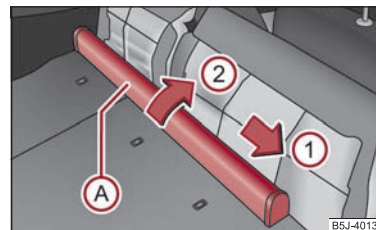

Fig. 67 Rear seats: Net partition housing
- Push the net partition housing (A) ⇒ page 69, fig. 67 in the direction of arrow ① and take it out of the mounts of the rear seat backrests on the right in the direction of the arrow ②.